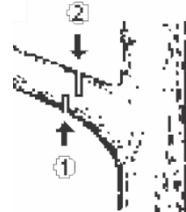

Fig. 26
**ATTENTION!** Pay attention to the recoil given by the branch after cutting. Branch cleaning of a standing tree (Fig. 26) Cut from the bottom up and finish from the top.